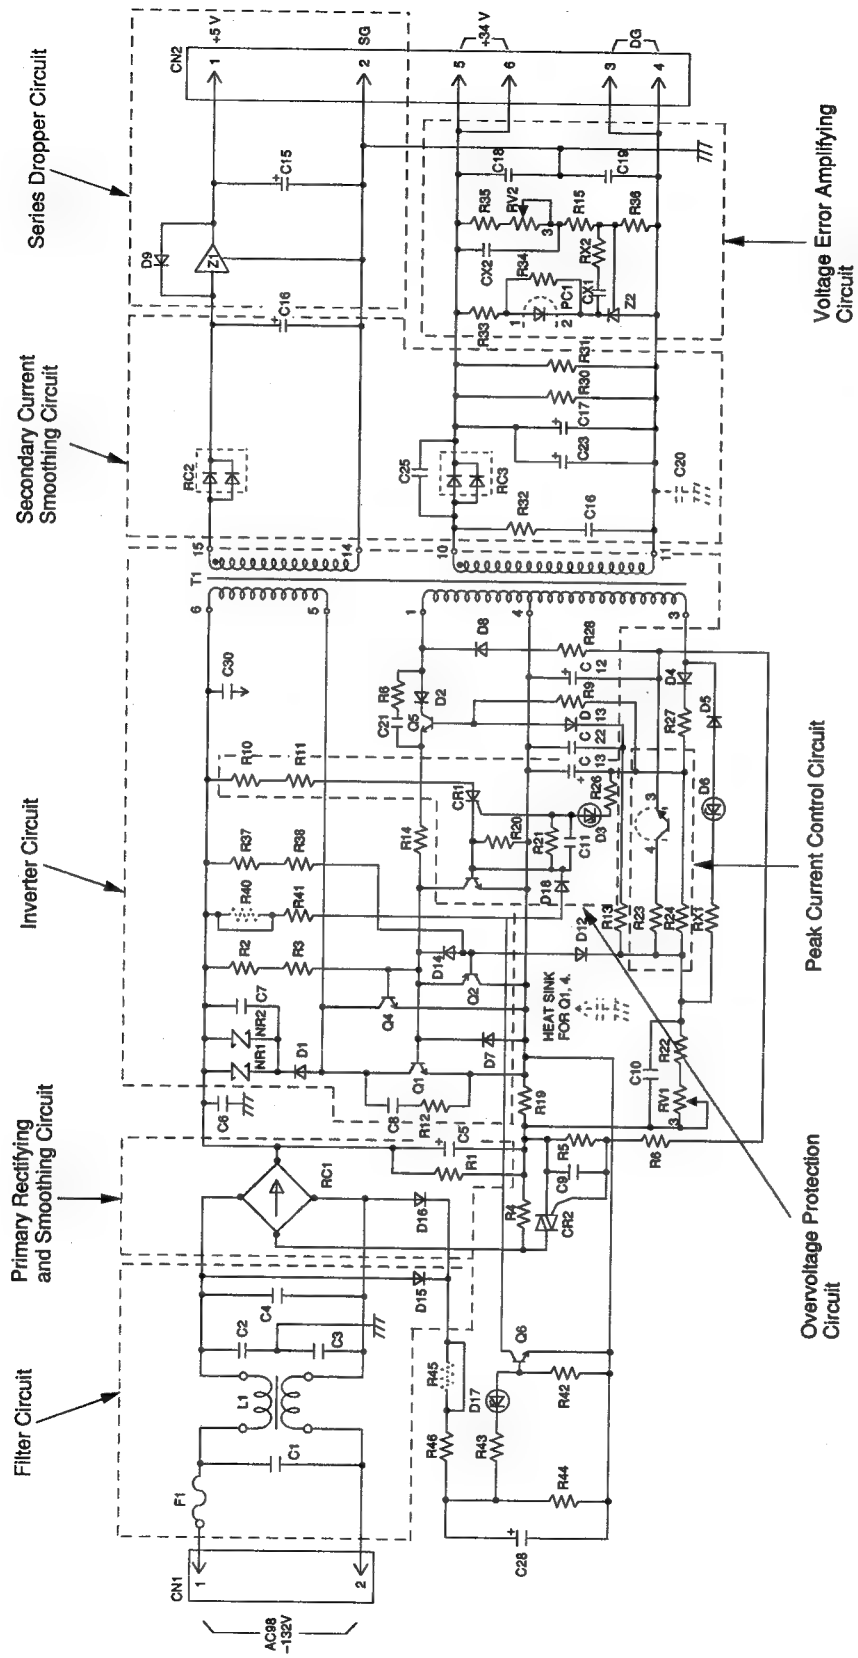
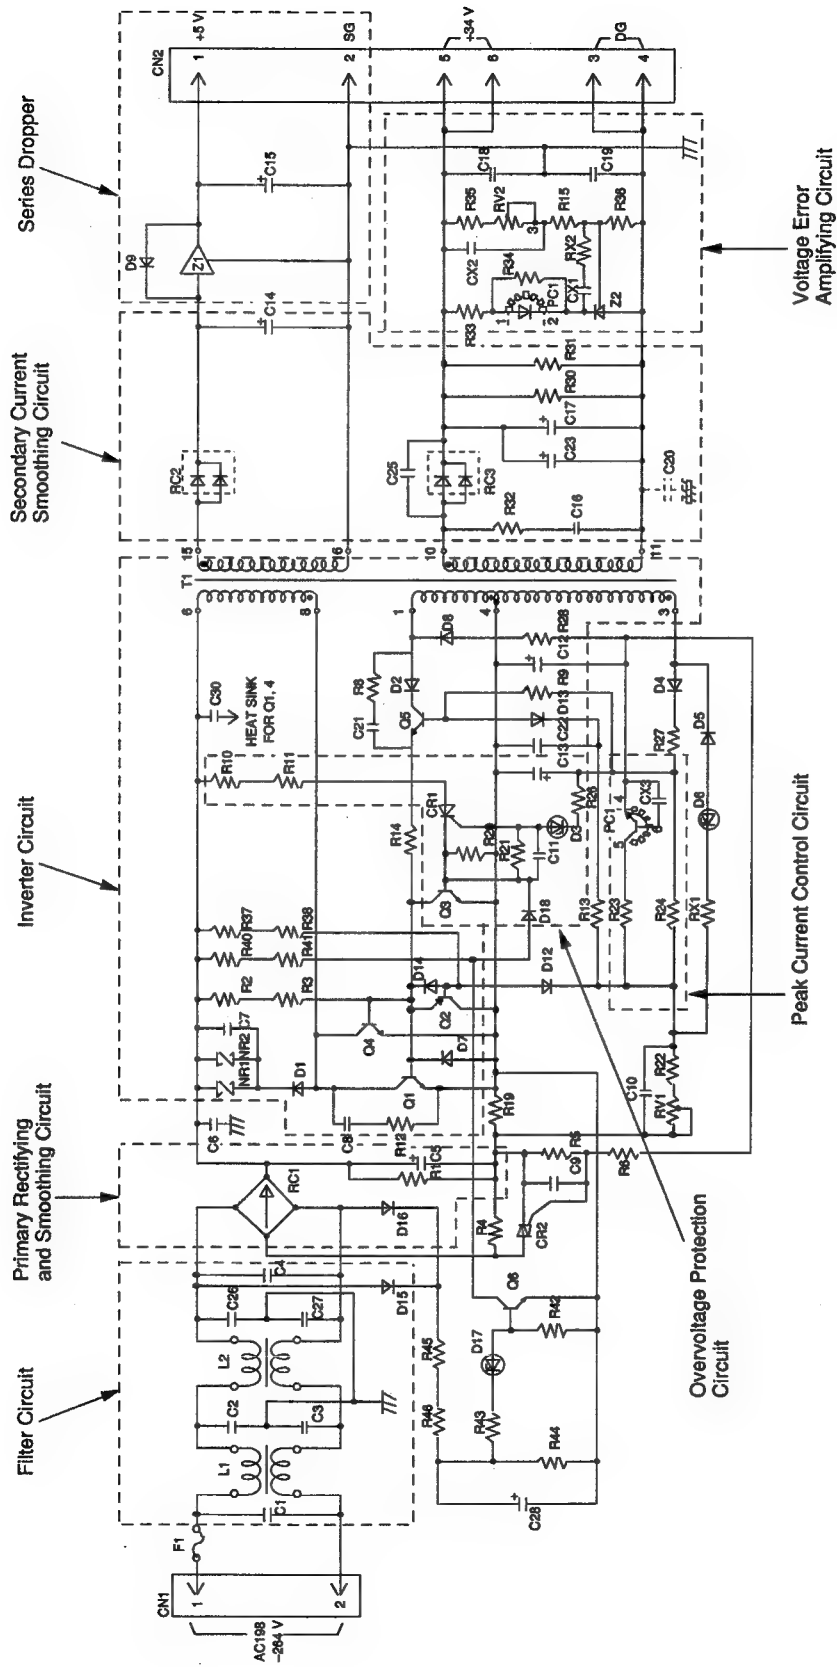
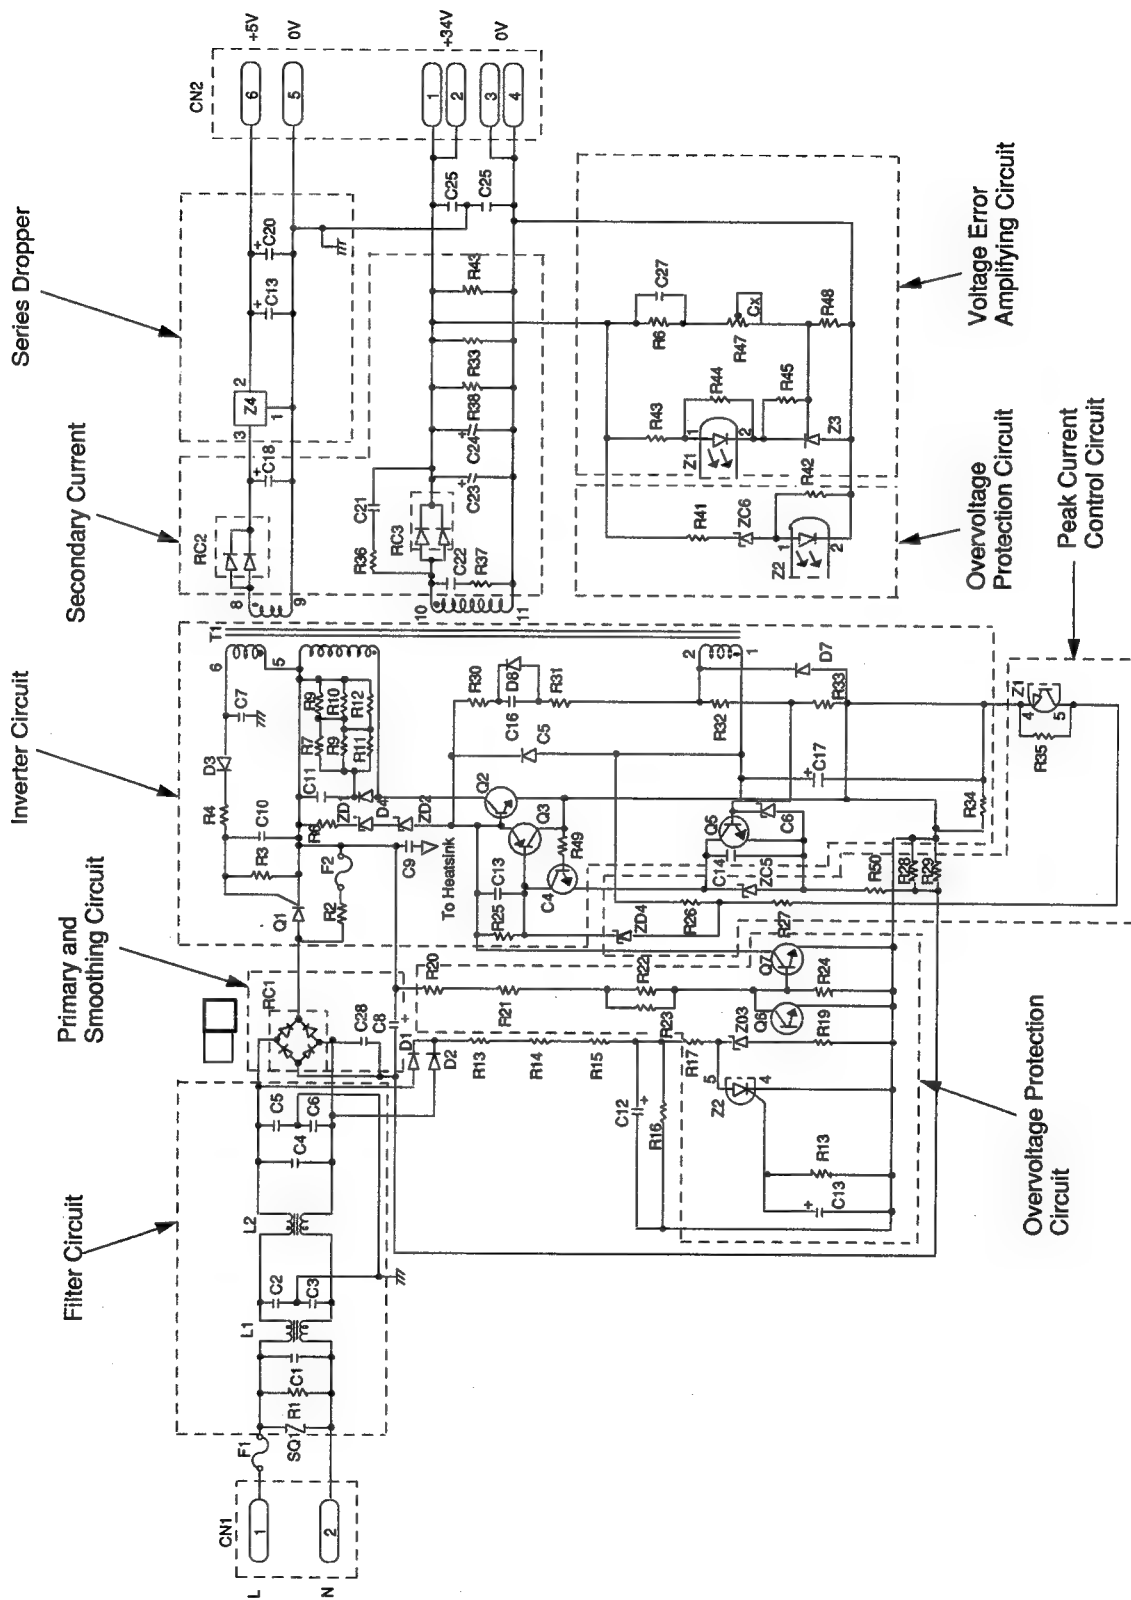

Figure 1-3 PSD Power (B) (808-891104-002-A) Block Diagram
Figure 1-4 PSD Power (C) (808-891104-003-A) Block Diagram
Figure 1-5 PSD Power (C) (808-891104-303-A) Block Diagram
Figure 1-3 shows the block diagram for the PSD Power (B) power supply and Figure 1-4 shows the block diagram for the PSD Power (C) (808-891104-003-A) and Figure 1-5 shows the block diagram for the PSD Power (C) (808-891104-303-A) power supply.